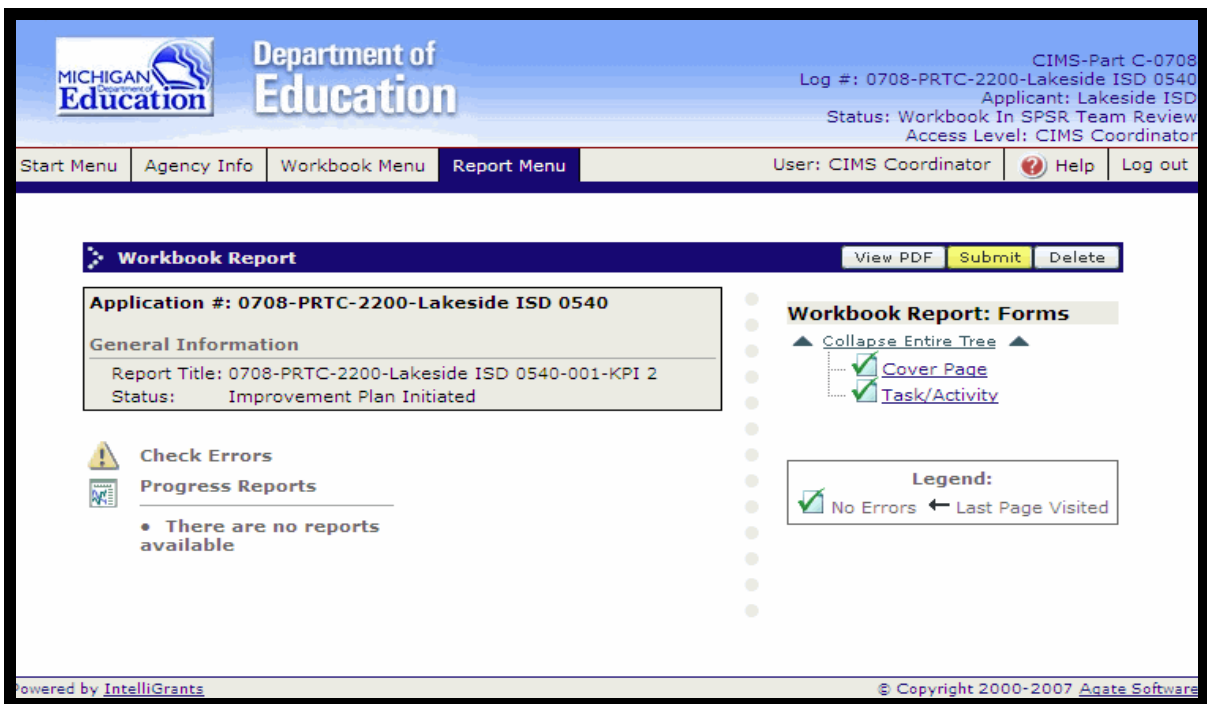

Figure 89
2. The Improvement Plan **Report Menu** screen will appear. Click the **Submit** button at the right side of the screen when you are ready to submit the Improvement Plan for MDE review (Figure 89).